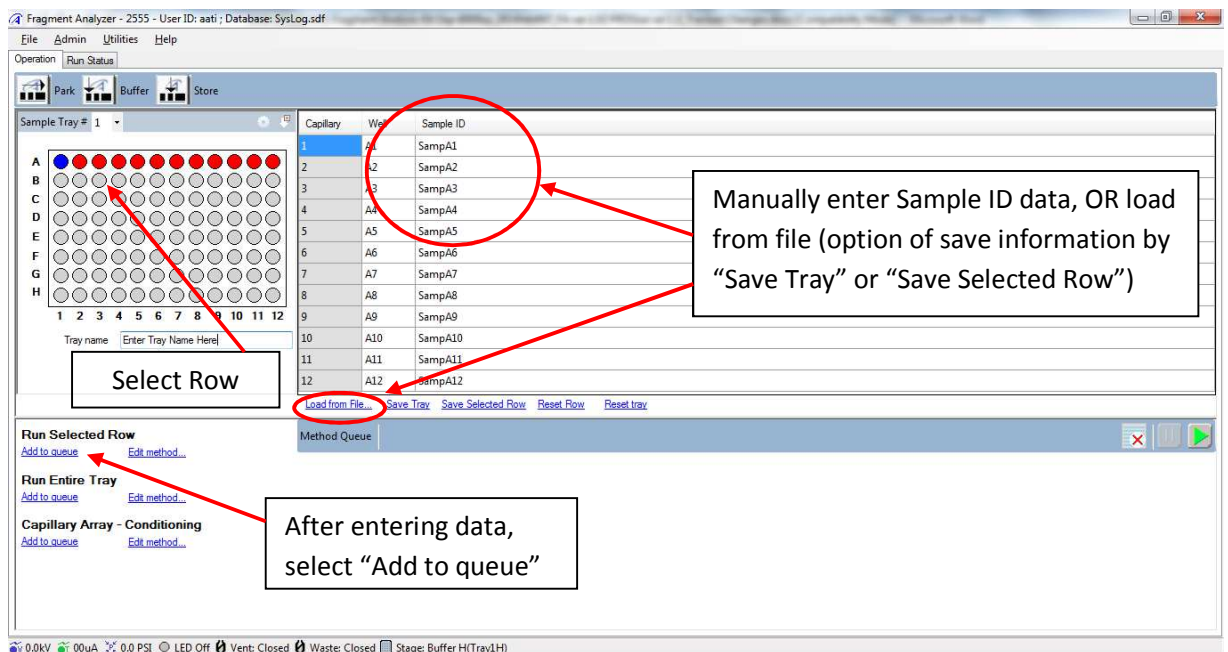

Figure 3. Main Screen showing selection of sample row and entering sample information
1. To set up an experiment, from the Main Menu of the *Fragment Analyzer*TM instrument control software, select the **Operation** tab (Figure 3). Select the sample tray location to be analyzed (1, 2, or 3) by left clicking the **Sample Tray #** dropdown or by clicking the appropriate sample plate tab (alternate plate view) and choosing the appropriate location. 96-Capillary Systems: Note that Sample 3 is typically assigned to the Capillary Storage Solution.
2. Left click a well of the desired sample plate row with the mouse. The selected row will be highlighted in the plate map (e.g., Row A in Figure 3). Enter the sample name if desired into the respective **Sample ID** cell by left clicking the cell and typing in the name. Alternatively, sample information can be imported from .txt or .csv file by selecting the **Load from File...** option.